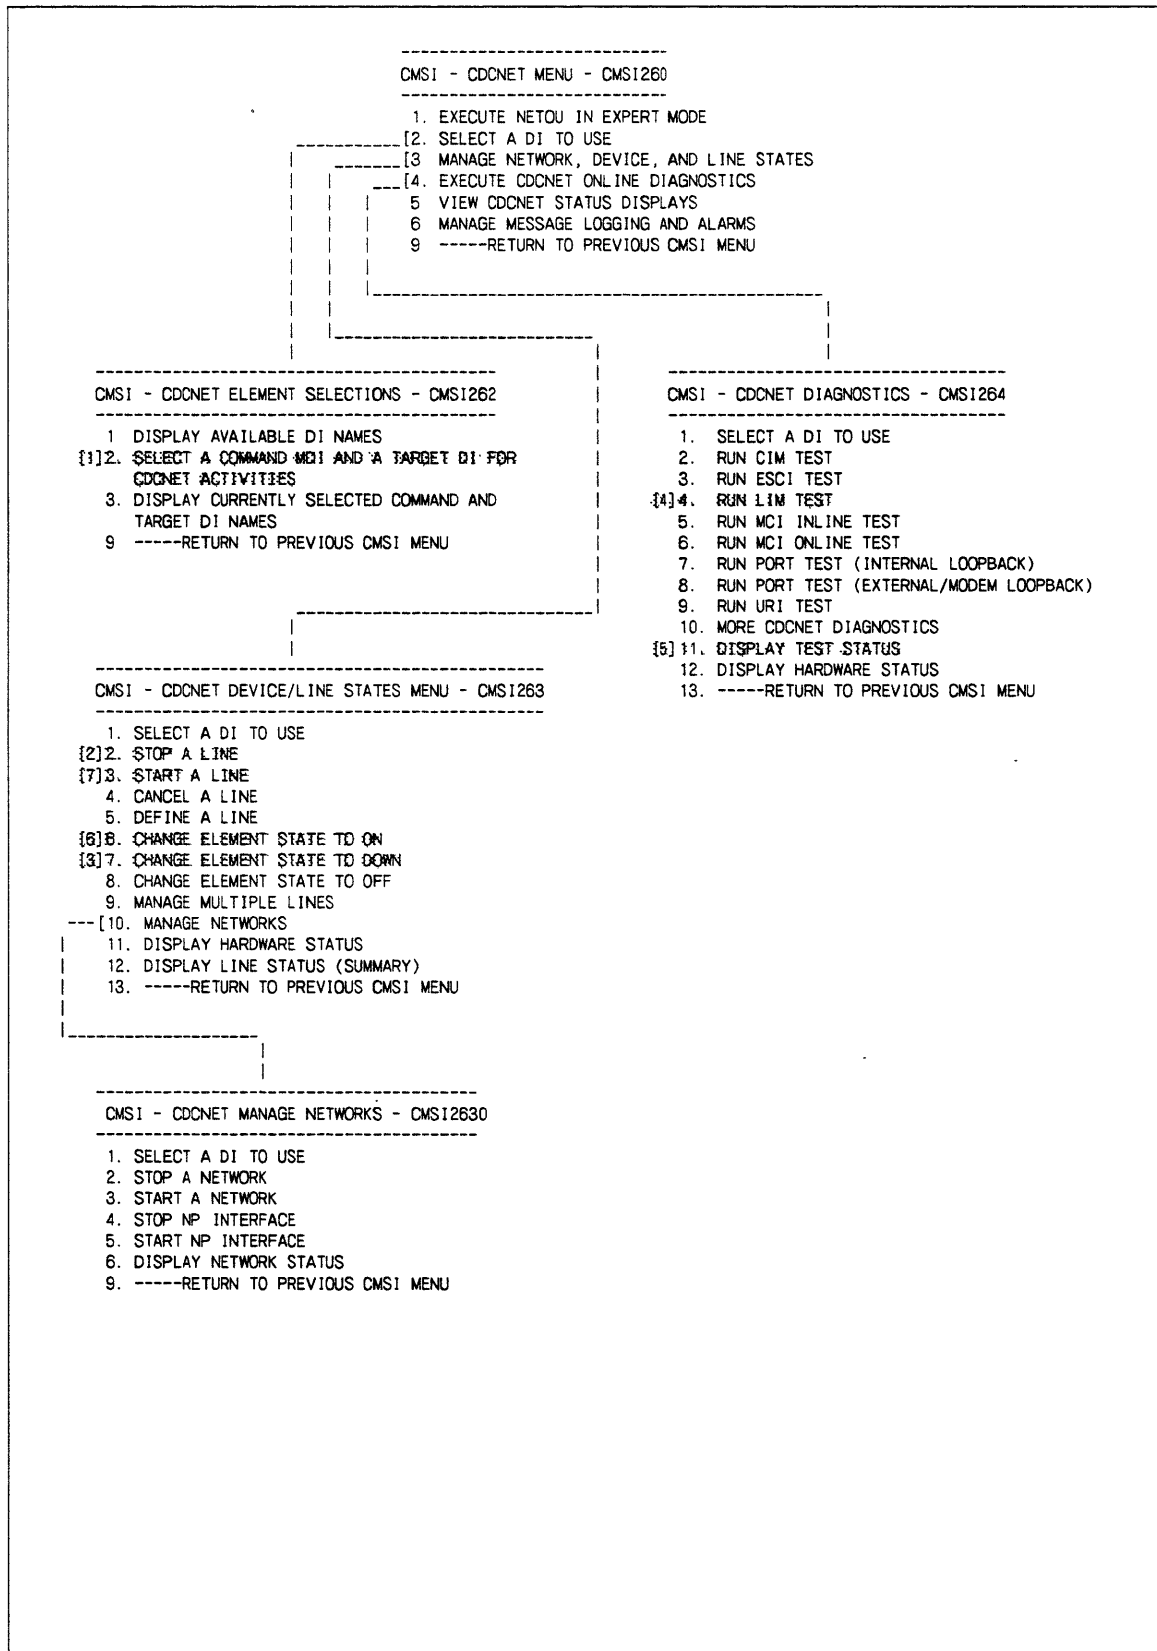

Figure 6-7. CMSI Menus for LIM Online Test
The following shows the sequence of actions necessary to run the LIM online test. Each menu choice is shown on figure 6-7 and described below. The purpose of this topic is to serve as a quick reference for the most frequently used menu selections. See chapter 4 for a complete description of CMSI. Familiarize yourself with the LIM test notes and procedure given earlier in this topic before running the test.
- Numbers in this column correspond to the bracketed numbers (for example, [1]) on figure 6-7.